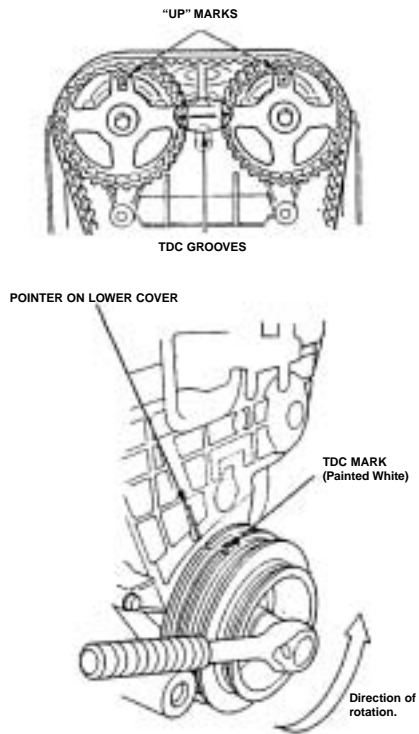

Figure 3
6. Rotate the crankshaft about 4 or 6 turns counterclockwise so that the belt positions on the pulleys as shown in Figure 3.
8. Position the crankshaft pulley and the camshaft pulleys at TDC. They should line up as shown in Figure 3.